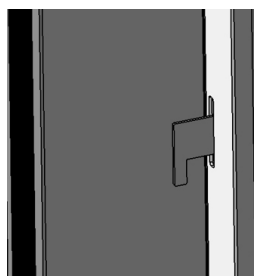

Fig. 24
25. a. Slide the left Side Trim into place by carefully guiding the Side Trim Attachment slots. Fig. 24 shows an inside view.